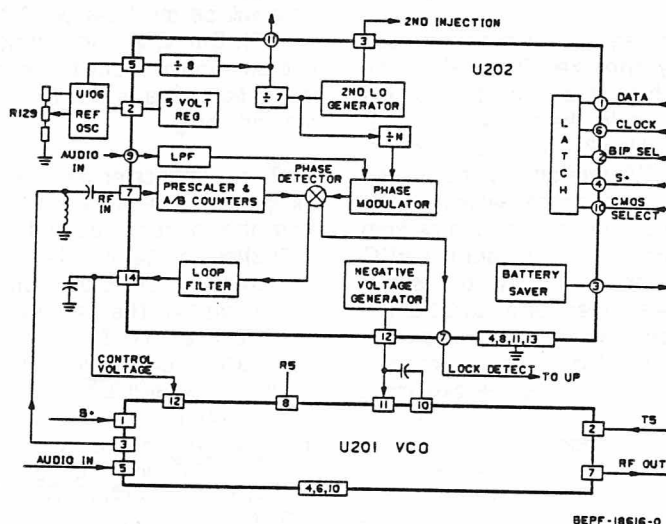

Figure 5. VCO / Synthesizer Block Diagram, VHF
(See Figures 5 and 6)
(1) The VCO (VHF Radios - Figure 5)